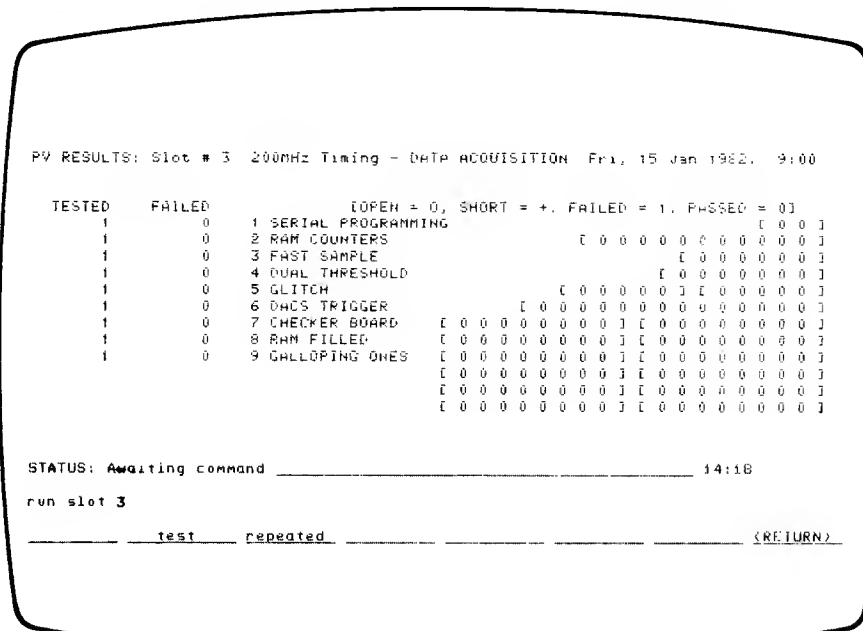

Figure 4-1. Display of PV Tests.
- i. Press [RETURN]. As shown in Figure 4-1, the screen will now show all 9 Acquisition Board PV tests. Tests that pass will be indicated by "0", and failures will be indicated by "1". The screen will also show the number of times the tests are run, and the number of failures.